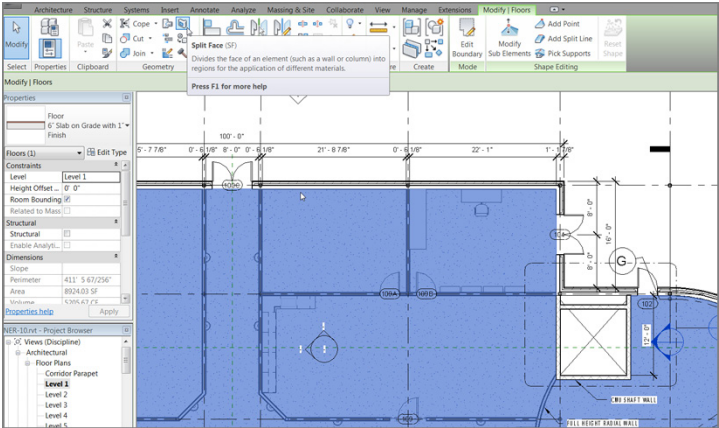

FIGURE 9.68: Clicking the Split Face button, and selecting the slab edge
1. Open the Level 1 floor plan. Click the Split Face button on the Modify tab, as shown in Figure 9.68.
2. Select the entire floor. This may require finding the edge of the floor along an exterior wall (see Figure 9.68).